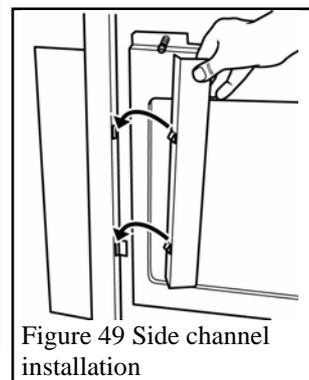

Figure 49 Side channel installation
- Fit the two side channels by hooking into the openings at the sides of the firebox as shown in figure 49.